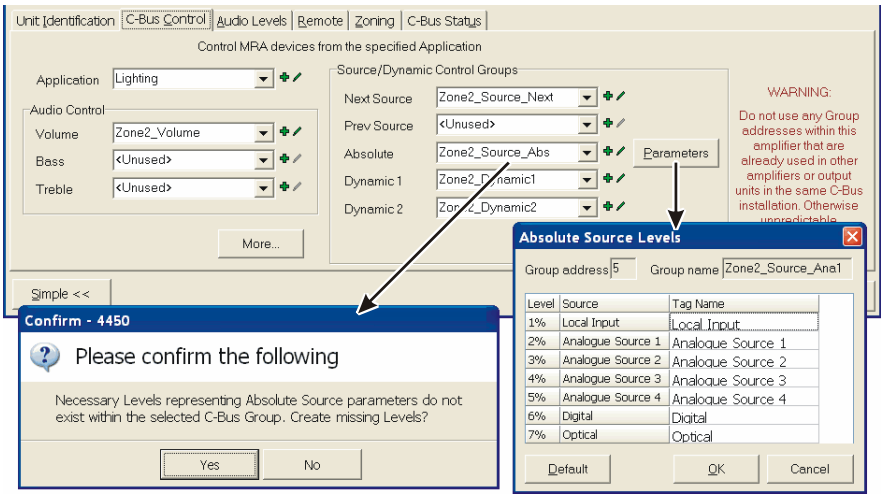

Figure 26 – The C-Bus Control tab for the Zone 2 Desktop Amplifier
The Absolute source is used to select a specific audio source, such as Analogue Source 1 or Local Input. It consists of a Group Address and a selector (level). When selecting an Absolute Group Address, you are asked if you want to create levels for the selected Group Address. After responding with Yes, you can click the Parameters button to see which levels are used to select specific audio sources. This is shown in Figure 26. The same levels are always used for the respective sources.
- iii) Click the Edit Scenes button to bring up the Scene Manager. Select the Group Address used for Absolute Source selection (from the list on the right hand side), and click the “<” button to add it to the list of Commands. Type the level which corresponds to the relevant source, in the box next to the slider. Absolute source levels can be seen in Figure 26.